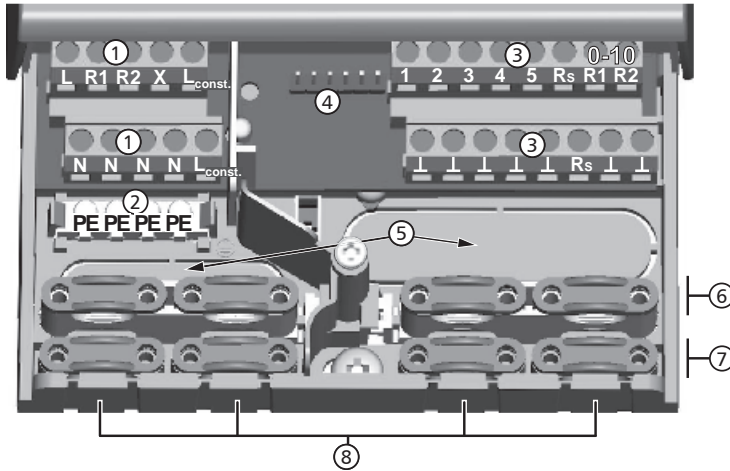

Fig. 3: Terminals in the lower part of the controller (terminal cover removed)
1. Break out the cable openings ⑤ (Fig. 3) using a suitable tool.
1. Cut the *required* cable openings ⑧ (Fig. 3) at the left and right using a suitable knife and break them out.